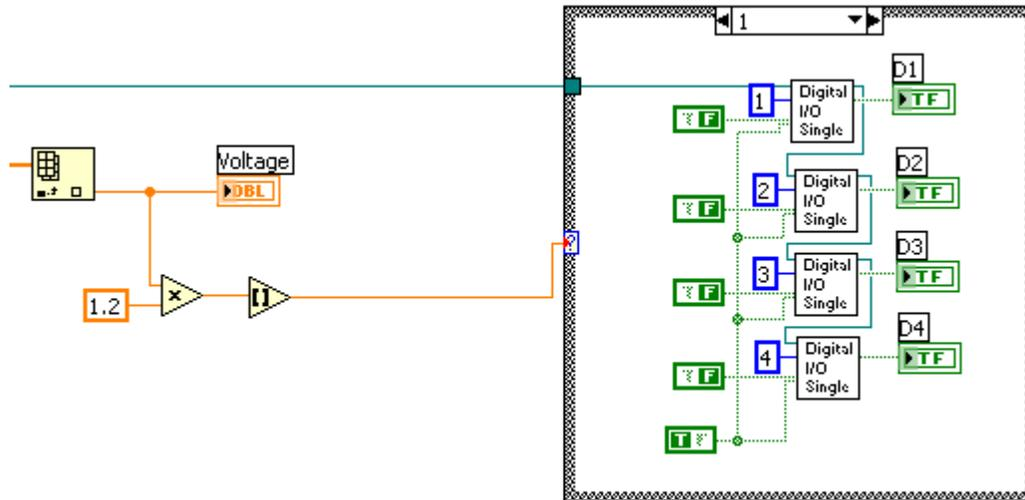

FIGURE 13 – CASE STRUCTURE ADDED
- Next, we will create a case structure to select different LED output patterns based on voltage. To add this structure, right-click in any blank portion of the block diagram and select “Programming” → “Structures” → “Case Structure”. As you did with the while loop, click and drag a box around only the digital I/O blocks (Figure 13).